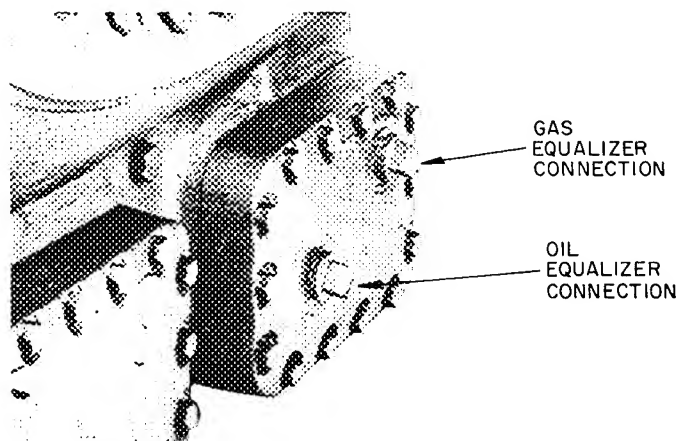

Fig. 13 - Special Handhole Cover with Equalizer Connections
**Special Handhole Cover Plates (Optional)** have tapped holes for connecting equalizer lines. When operating compressors in parallel, replace standard covers with special covers. See Fig. 13.